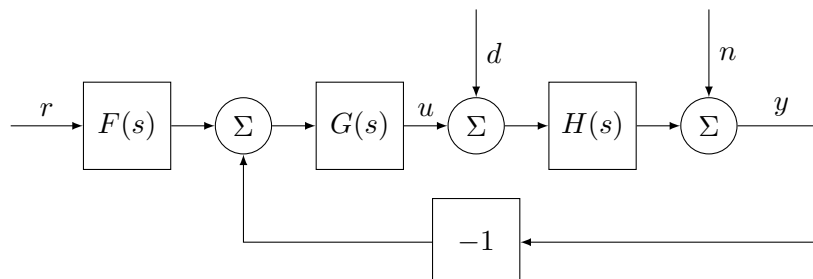

Figure 1: A standard control system.
- (e) For the standard control system in Figure 1, compute the closed-loop transfer functions  $T_{ry}(s)$ ,  $T_{dy}(s)$ ,  $T_{ny}(s)$ ,  $T_{du}(s)$ , and  $T_{nu}(s)$  in terms of  $F(s)$ ,  $G(s)$ , and  $H(s)$ .
where  $k_{\text{reference}}$  is chosen so that  $y = r$  in steady-state. Compute the transfer functions  $F(s)$  and  $G(s)$  that, along with  $H(s)$  from part a.i, would express the closed-loop system in the standard form of Figure 1. Leave each transfer function in terms of  $k_1$ ,  $k_2$ ,  $\ell_1$ , and  $\ell_2$ , but simplify as much as possible (i.e., eliminate common factors from each numerator and denominator).
- ii. Compute the transfer functions  $F(s)$  and  $G(s)$  that, along with  $H(s)$  from part a.i, would express the closed-loop system in the standard form of Figure 1.